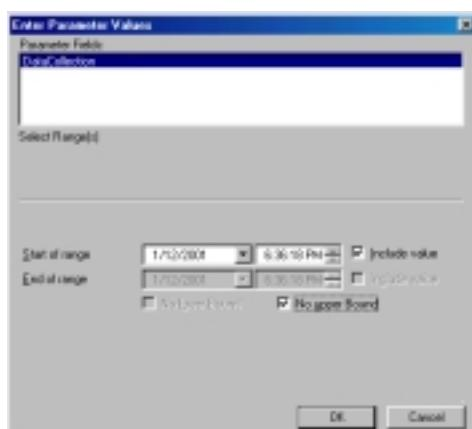

Figure 9.20 Date Range Window
2. A window specifying a date range will appear (Figure 9.20). Enter the beginning and ending collection dates for the desired report. Select the “No upper Bound” option to view a report containing all transactions since the “Start of range” field value or select the “No lower Bound” option to view a report containing all transactions leading up to the “End of range” value.